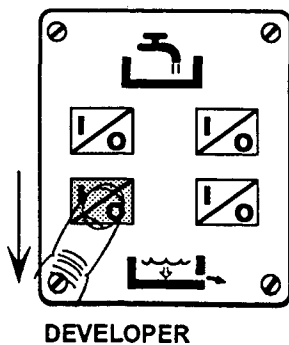

figure 15
7. Press the CIRCULATION PUMP SWITCH one time (see figure 15+17). Step 1 of the table (figure 14) is now selected. A beep is audible and the LED is blinking one time.